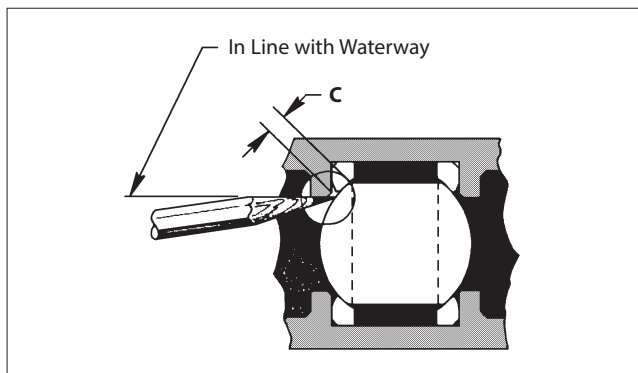

Figure 5.
3. Cycle the valve to the closed position. Scribe a pencil mark on the ball as shown in (**Figure 5**). Open the valve and measure dimension "C" between scribe mark and edge of ball. Loosen hex head cap screw (H6) and locknut (H7) and adjust the cam adjuster (H3) as in step 2 according to dimension "C" in (**Table 4**).